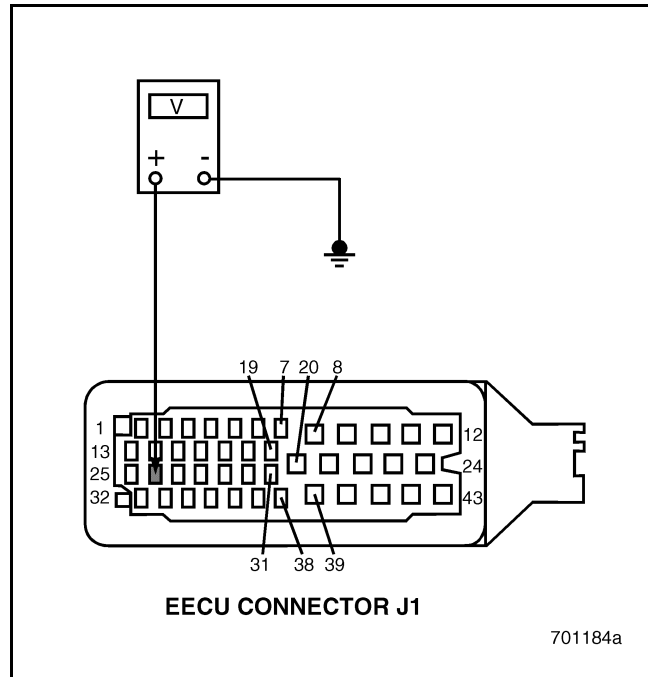

Figure 269
4. Measure the voltage between EECU connector J1 pin 26 and a good ground (see Figure 269).